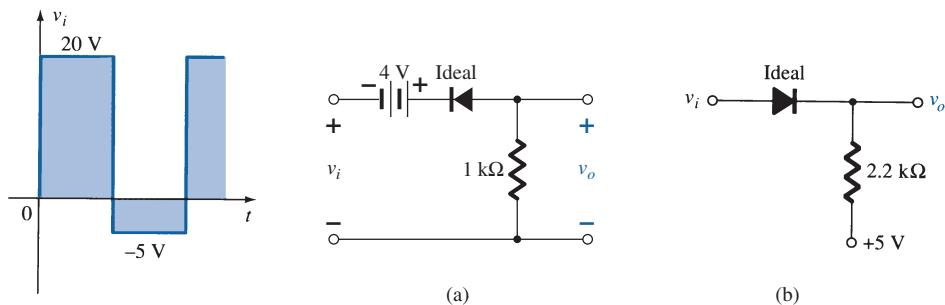

FIG. 178
*34. Determine v_o for each network of Fig. 178 for the input shown.